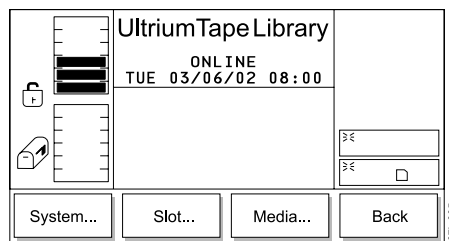

Figure 105. Library Submenu
2. Press the button below the **Library** softkey. The Library Submenu displays (see Figure 105).